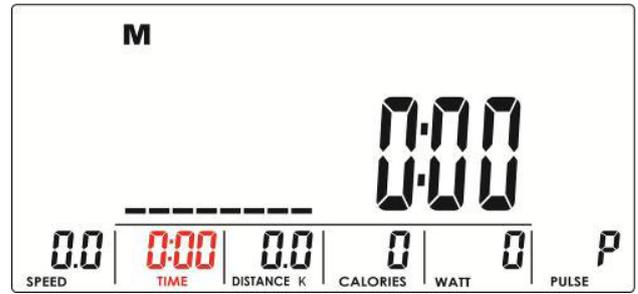
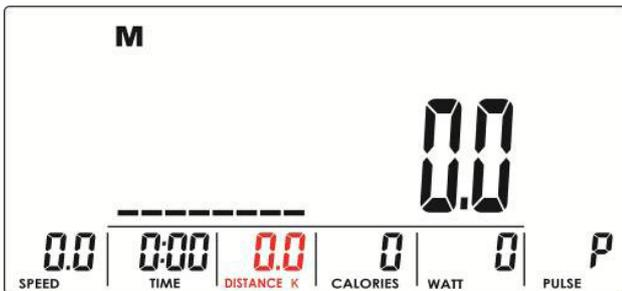
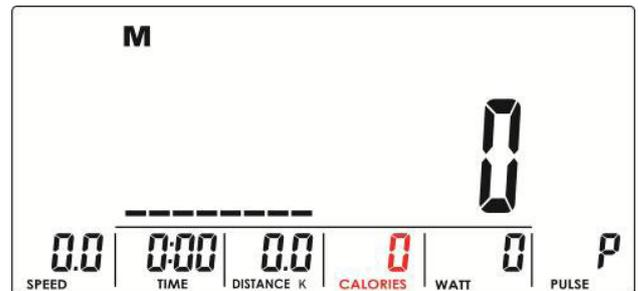
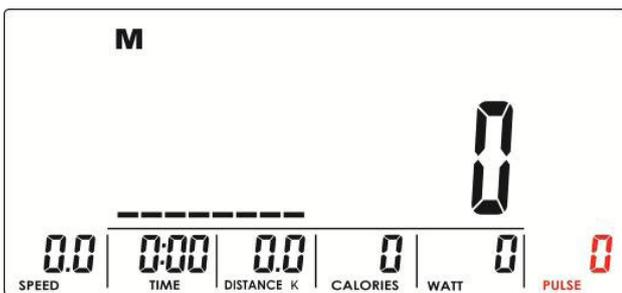

Fig. 5
Fig. 6
Fig. 7
Fig. 8
3. Enter the time (fig. 5), the distance (fig. 6), the calories (fig. 7), and the pulse (fig. 8) with the encoder. Confirm your settings with MODE/ENTER.